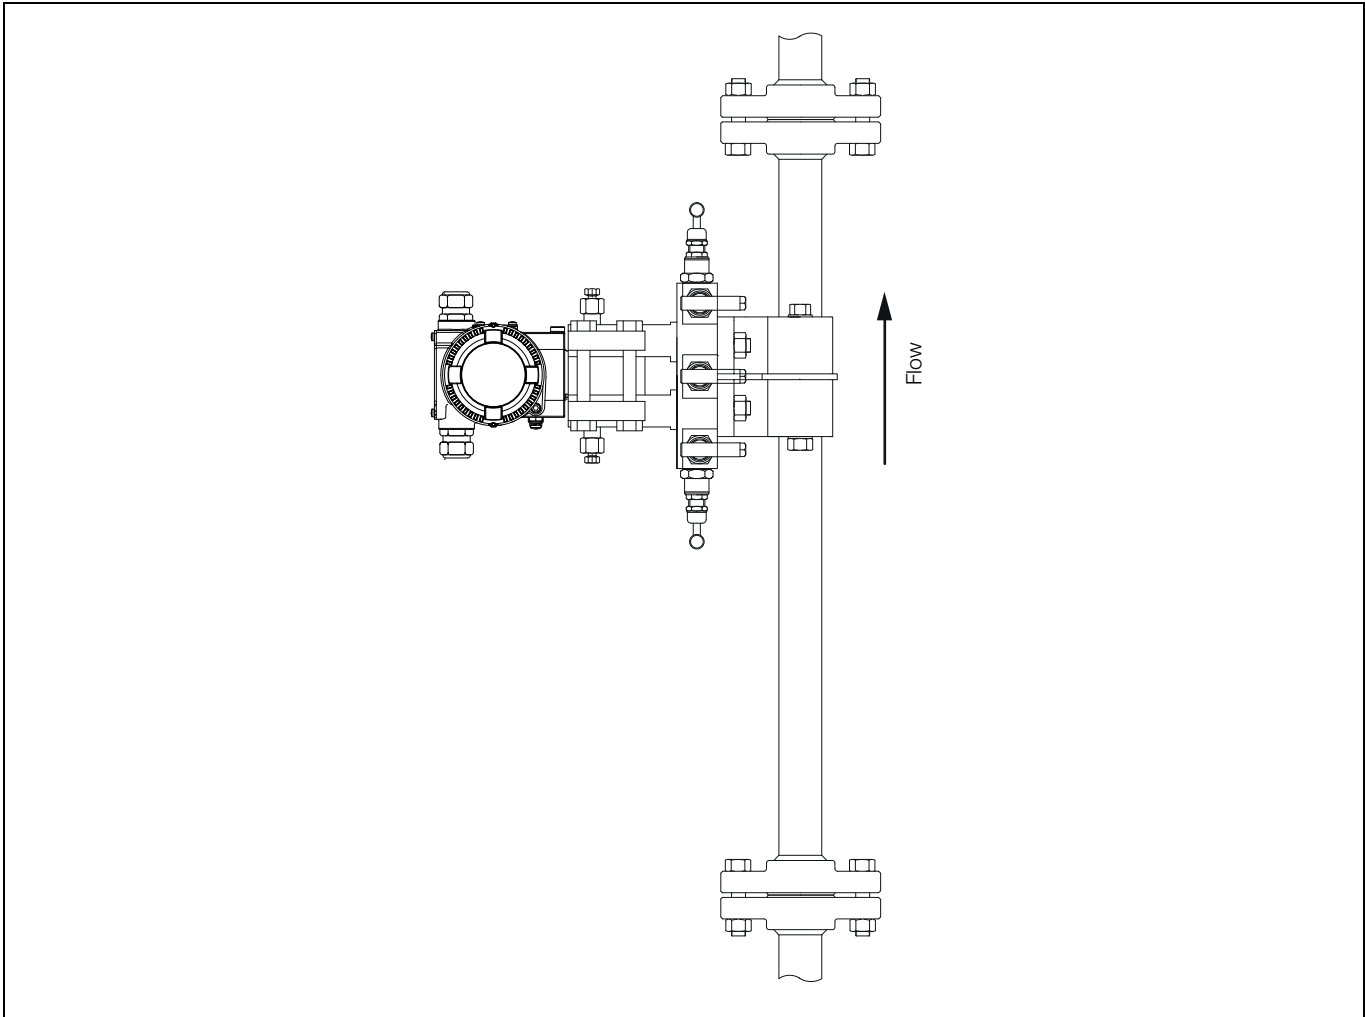

Fig. 2.5 Vertical Pipe Mounting – Liquid and Gas Applications (Upward Flow)
Install the meter as shown in Fig. 2.5.
- for vertical pipe mounting – liquid or gas, refer to Fig. 2.5.